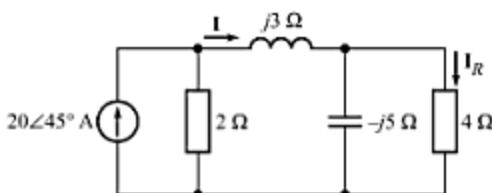

Fig. C-57
- C-87. Use current division twice to find the current \mathbf{I}_L for the circuit shown in Fig. C-57. [Ans. $6.85 \angle -7^\circ \text{ A}$]